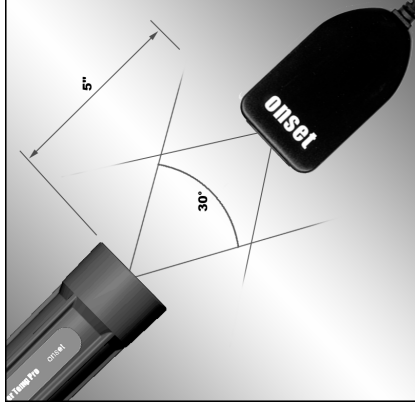

Figure 2: IR Communication Setup Using the IR Basestation
4. Point the communications window in the logger at the IR window in the IR Basestation, making sure they have a clear, unobstructed view of each other within a 30 degree acceptance angle (see Figure 2).